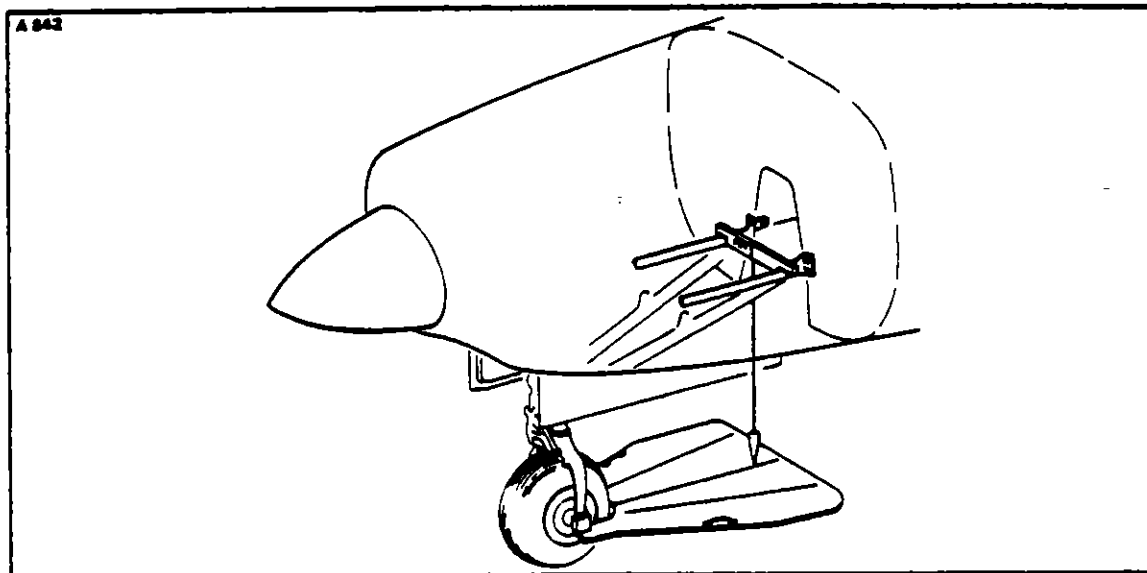

FIGURE 6-6. INSTALLATION OF PLUMB BOB ATTACHMENT TOOL AND ALIGNMENT JIG
- (b) Install the plumb bob attachment tool on the forward edge of the lower fire wall flange, or on the two nose gear brace tubes as shown in Figure 6-6 and attach a plumb bob to the tool. (This tool may be fabricated from dimensions given in Figure 6-38.)
- (a) Attach a plumb to the plumb bob attachment tool and install tool on the forward edge of the lower fairing wall flange, or on the two nose gear brace tubes as shown in Figure 6-6.
- (b) Attach aligning jig to the rear of the nose wheel at the axle as shown in Figure 6-6.